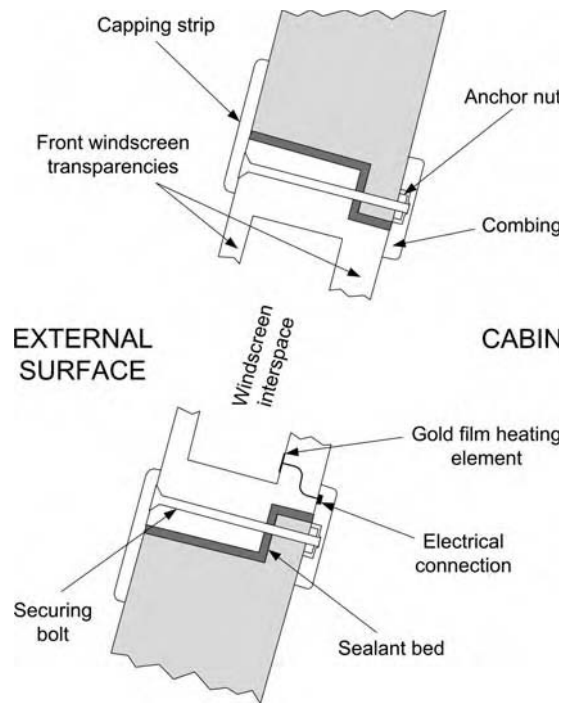

Figure 1.25 Simplified schematic cross-section of a typical windscreen requiring external fit.
- The windscreen was not designed so that internal pressure would hold it in place, but was fitted from the outside (Figure 1.25).